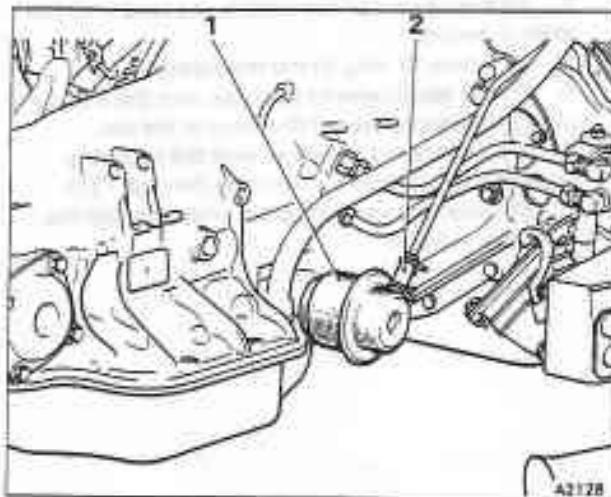

Fig. T9-1 Vacuum modulator and vacuum pipe
2. Disconnect the vacuum pipe at the modulator end if the transmission is in the car (see fig. T9-1).